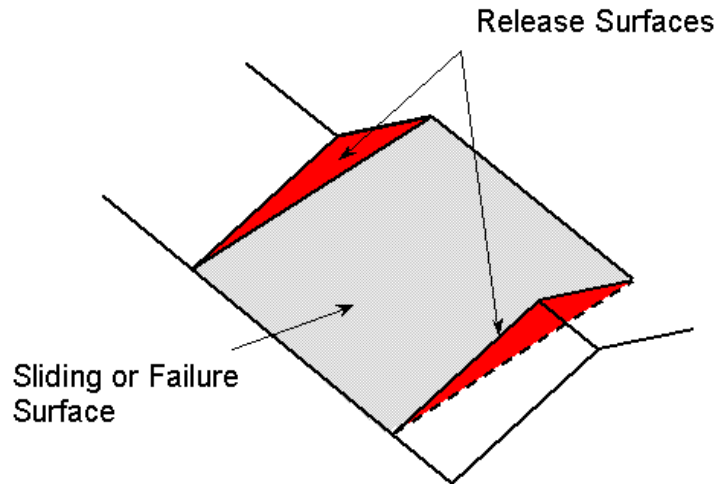

Figure 1-3: Release surfaces required to allow planar sliding to occur.
6. Release surfaces are present, parallel to the cross-section of the analysis, which provide negligible resistance to sliding at the lateral boundaries of the failure. This is shown in Figure 1-3. Alternatively, failure can occur on a failure plane passing through the convex “nose” of a slope (Ref. 1).